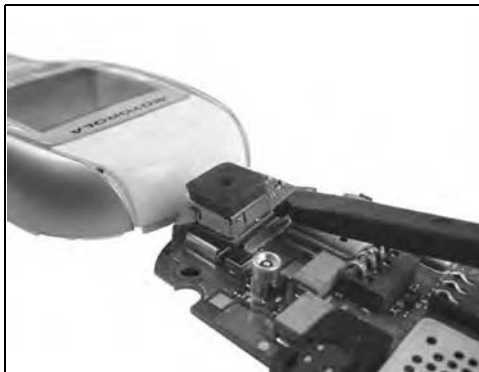

Figure 7-13.
3. Locate flat tip of black stick under camera's circuit board cushion. Wedge and carefully push black stick to disengage cushion adhesive from shield surface. See Figure 7-13.